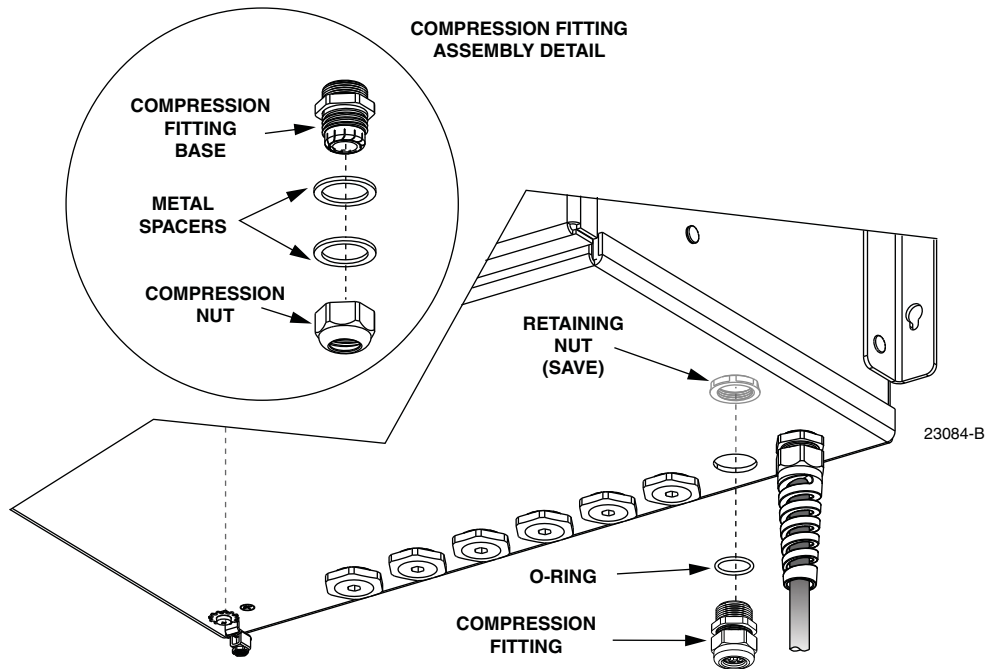

Figure 53. Distribution Cable Compression Fitting
5. Locate the distribution cable compression fitting that is shipped with the cabinet and loosely assemble the fitting as shown in Figure 53.
- **Note:** Two metal spacers are installed on the compression fitting (see Figure 53) to prevent the compression nut from being overtightened.